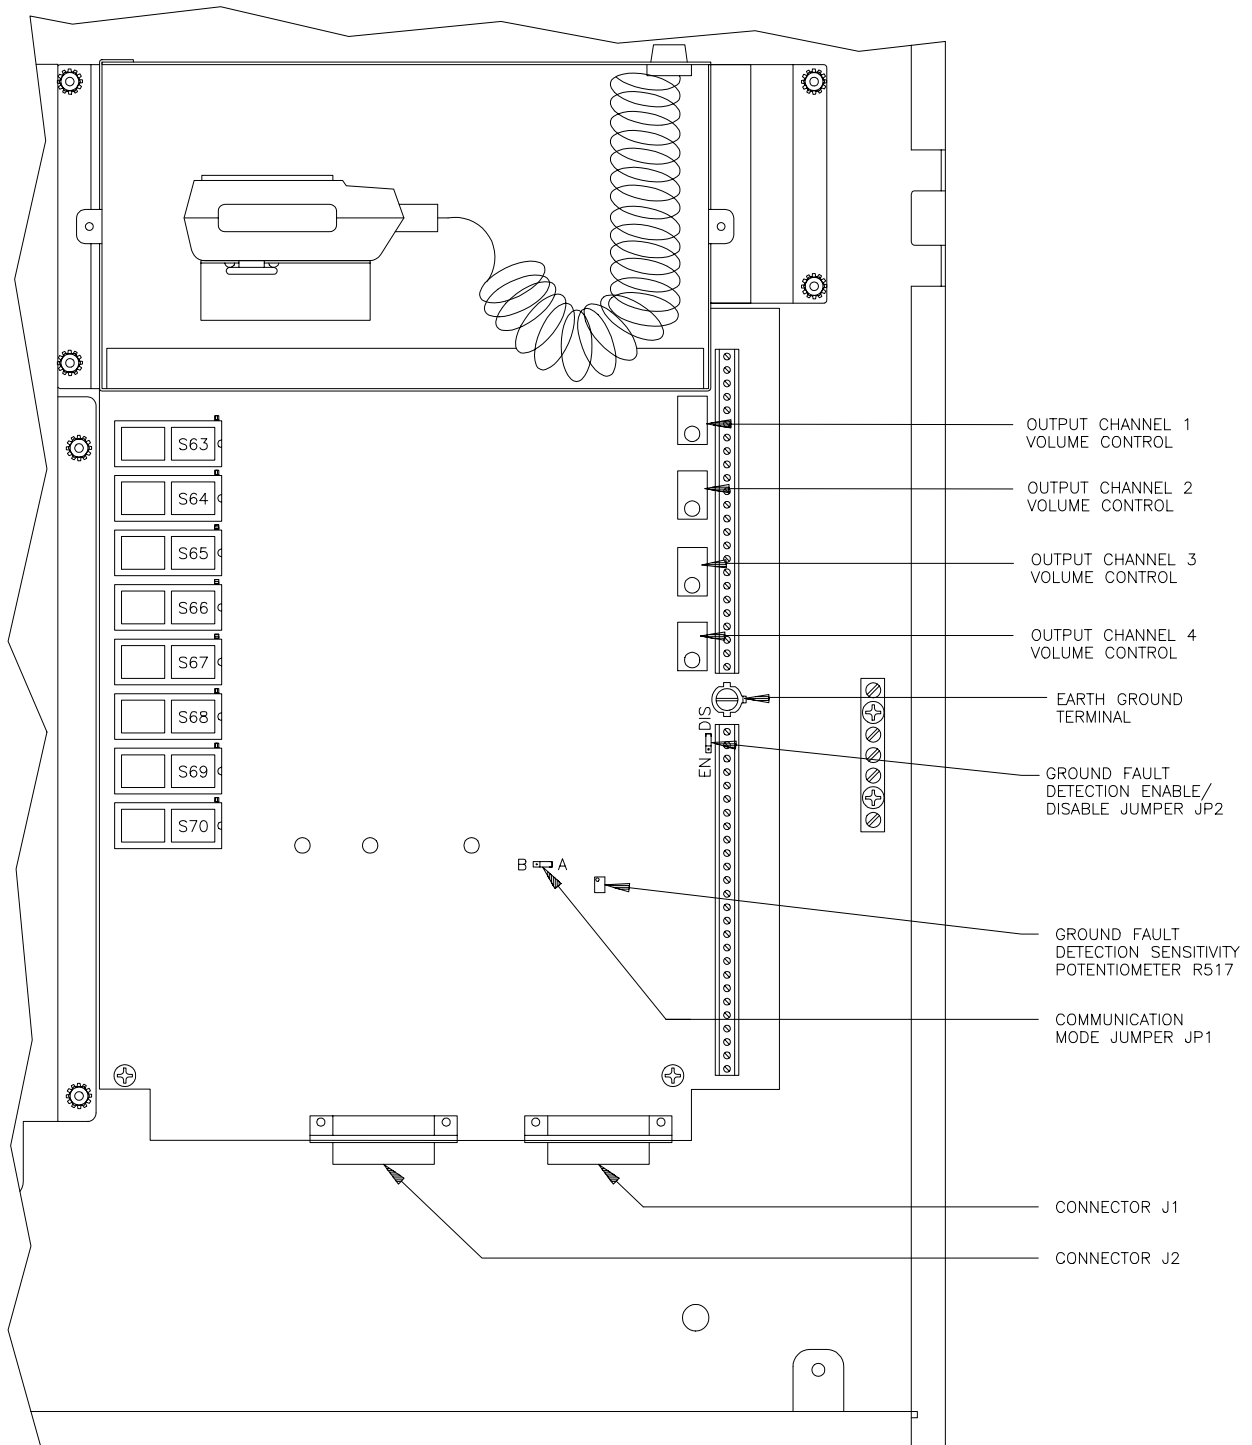

Figure 5.
2. Place the communication mode jumpers (JP1) on each of the digital voice panels in position A. See Figures 5 and 6, respectively, for the location of the jumper (JP1) on the destination DX-100 and DX-200. See Figure 8 in the Series DV-200 VoiceLink Operation and Installation Manual for the location of the jumper (JP1) on the source Series DV-200.
1. Connect a wire between the ground screw on the digital voice module (DX-100 or DX-200) printed circuit board and the adjacent ground terminals on the enclosure. See Figures 5 and 6, respectively, for the location of the ground screw and the adjacent enclosure ground terminals for DX-100 and DX-200 configured panels.